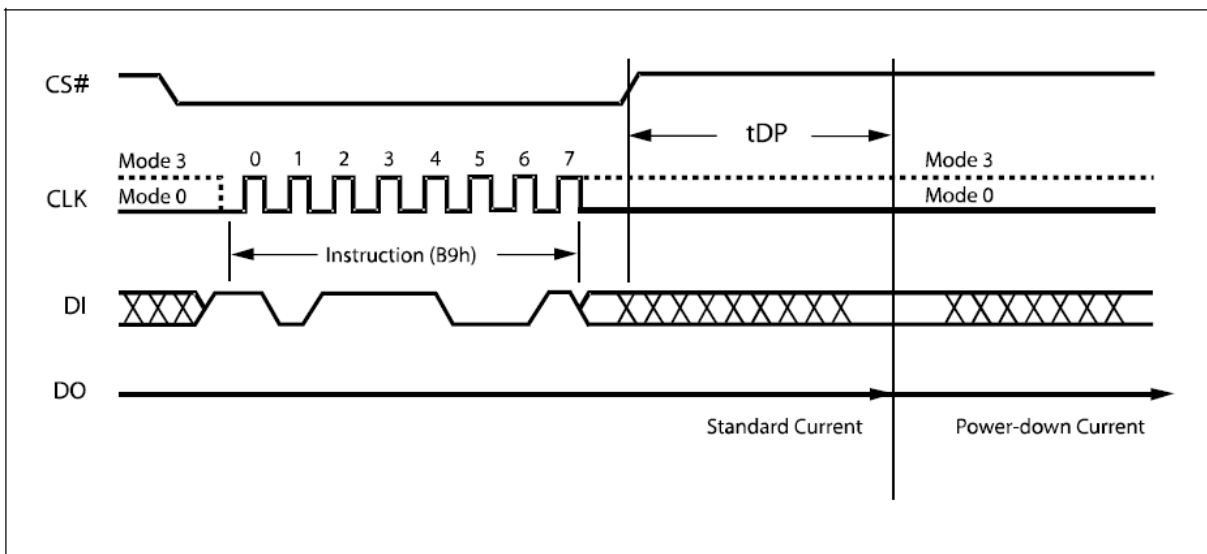

Figure 38. Deep Power-down Instruction Sequence Diagram
The instruction sequence is shown in Figure 38. Chip Select (CS#) must be driven High after the eighth bit of the instruction code has been latched in, otherwise the Deep Power-down (DP) instruction is not executed. As soon as Chip Select (CS#) is driven High, it requires a delay of t_{DP} before the supply current is reduced to I_{CC2} and the Deep Power-down mode is entered.